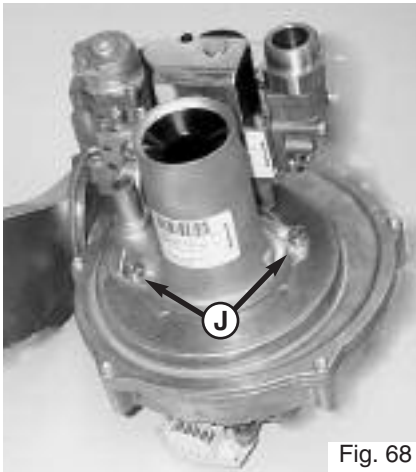

Fig. 68
3. Unscrew the two screws from the venturi **J** and remove with the gas valve (Fig. 68);